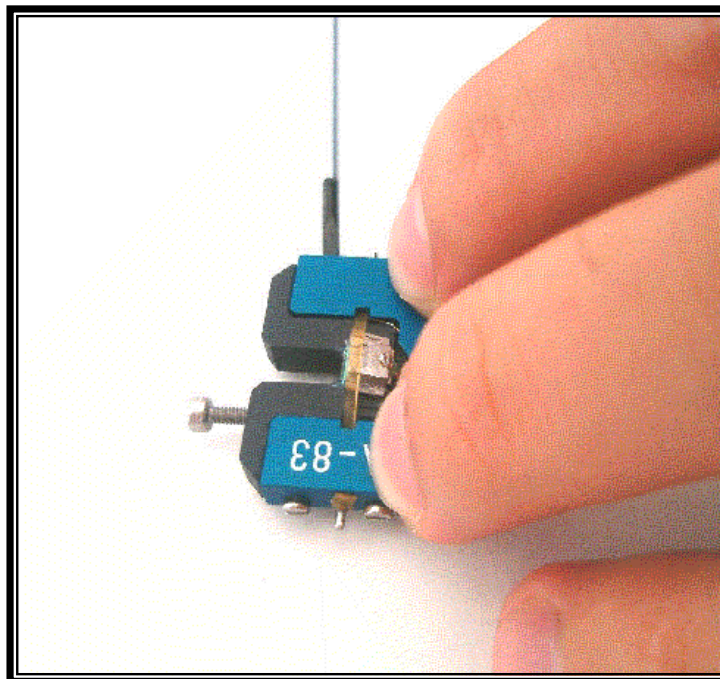

Fig. 2.29: Replacing the top part of the cantilever holder with a new rubber strip
6. Finally, replace the top part of the cantilever holder to its original position, and tighten the screws with the screwdriver, pressing the top part down with your fingers, as shown in Fig. 2.29, to get the top part properly fixed while tightening.